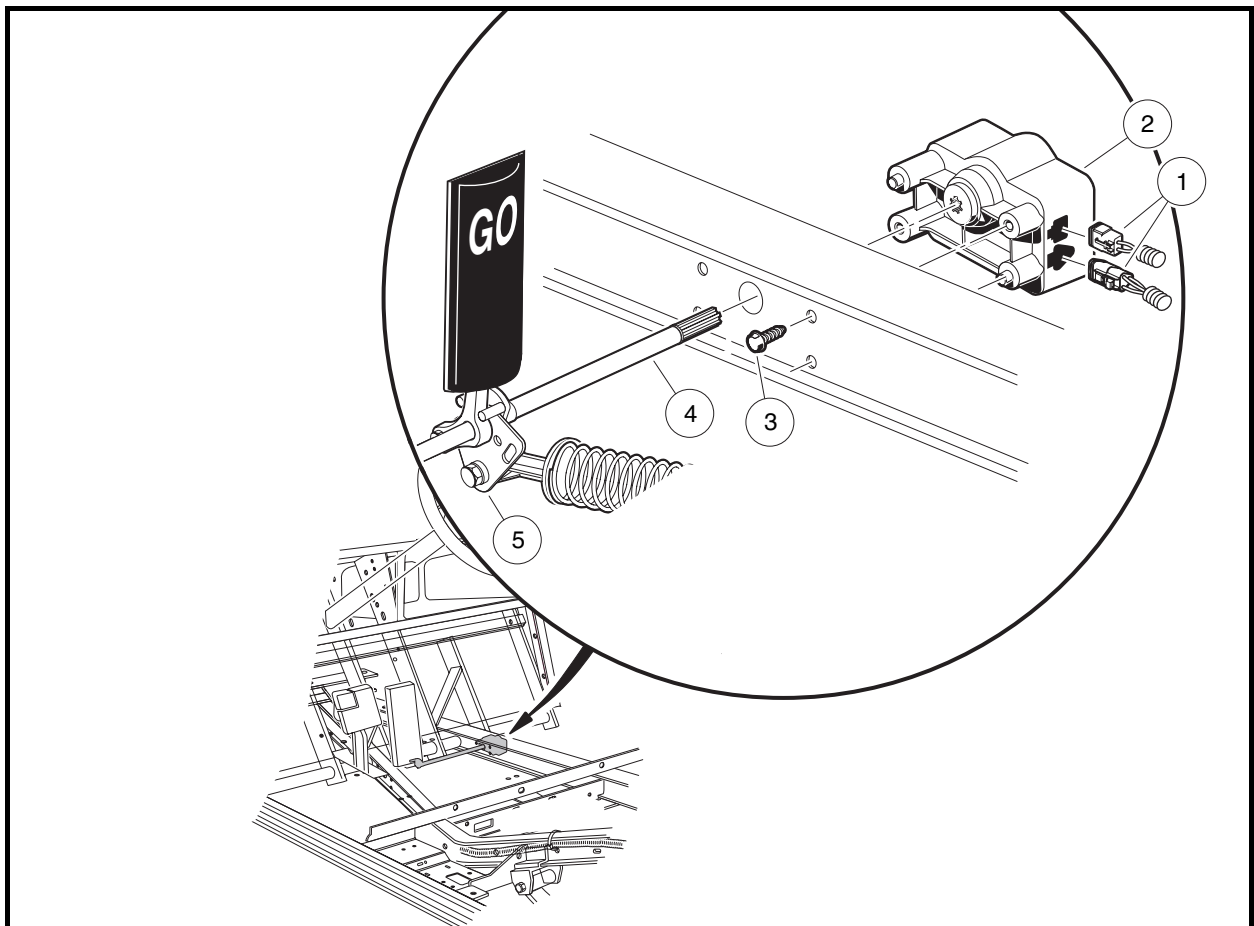

Figure 23-7 Motor Controller Output Regulator (MCOR) Mounting
3. Disconnect the two-pin and three-pin connectors (1) from the MCOR (2) (**Figure 23-7, Page 23-8.**)
4. Remove the hex-head screws (3) connecting the MCOR to the frame I-beam.
6. Push the drive bar (4) into the hole in the I-beam to disengage it from the accelerator pivot rod (5).
1. Insert the splined end of the drive bar (4) through the hole in the passenger-side frame I-beam as shown (**Figure 23-7, Page 23-8**).
3. Place the MCOR (2) onto the splined end of the drive bar (**Figure 23-7, Page 23-8**). **See following NOTE.**